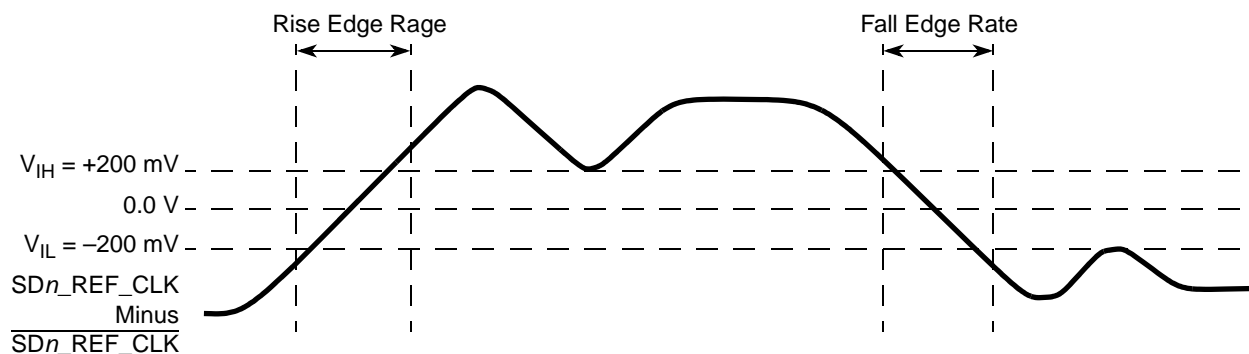

Figure 31. Differential Measurement Points for Rise and Fall Time
3. Measured from –200 to +200 mV on the differential waveform (derived from SDn_REF_CLK minus $\overline{SDn_REF_CLK}$). The signal must be monotonic through the measurement region for rise and fall time. The 400 mV measurement window is centered on the differential zero crossing. See Figure 31.